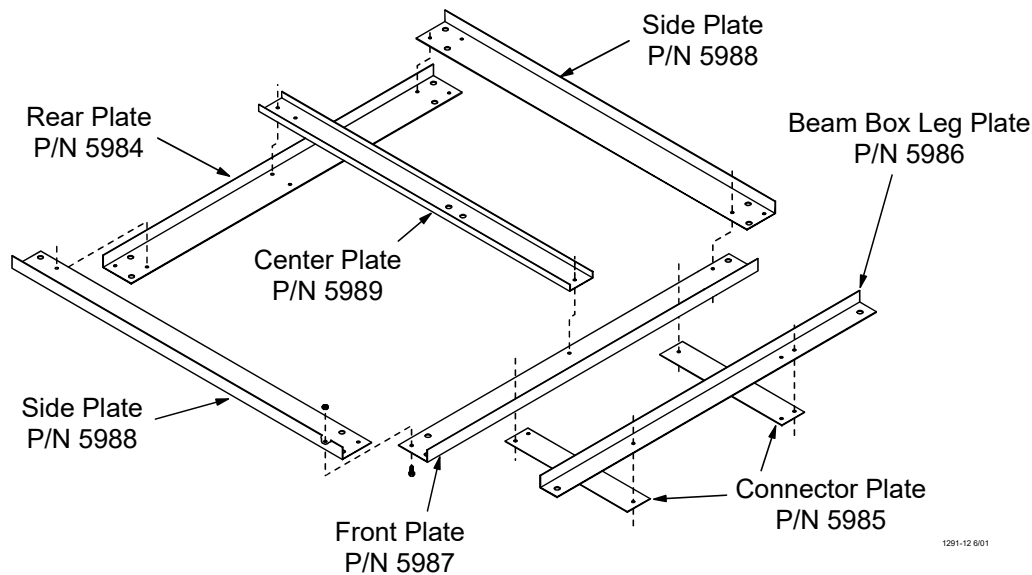
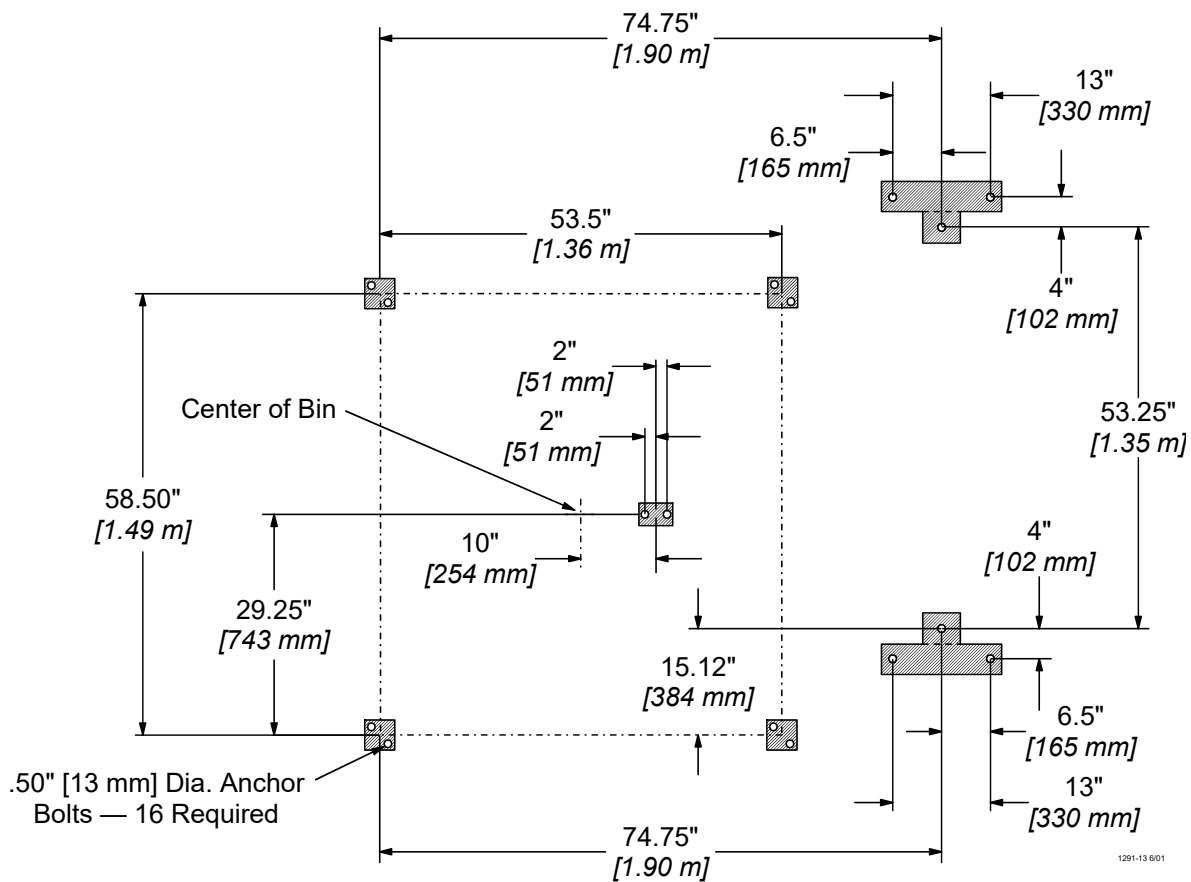

Figure 7. Template assembly diagram
Figure 8. Anchor bolt layout diagram
2. Use the 5978 Scale Template, as shown in **Figure 7**, or the Anchor Bolt Setting Diagram in **Figure 8**, to locate the correct position of the 16 anchor bolts for the scales. Use a 1/2" [13 mm] masonry drill to bore the holes at least 3" [76.2 mm] into the concrete weigh bin foundation.